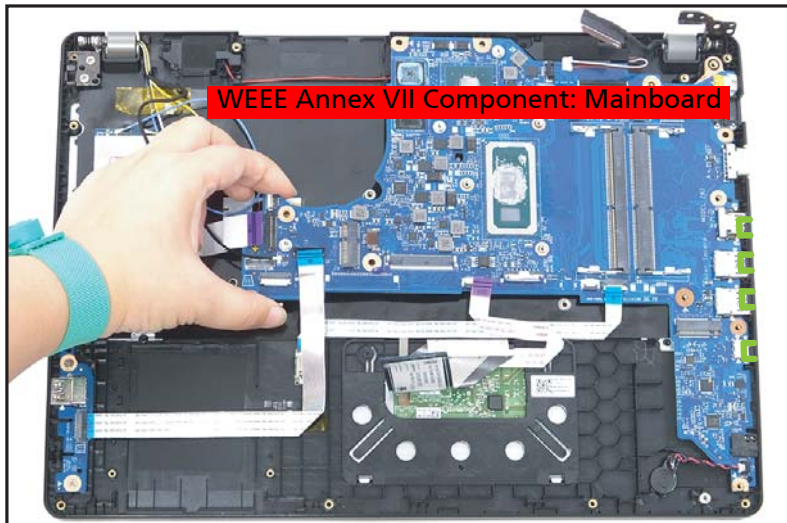

Figure 1-54. Mainboard Removal
15. Release the mainboard from the top assembly and then remove (Figure 1-54).